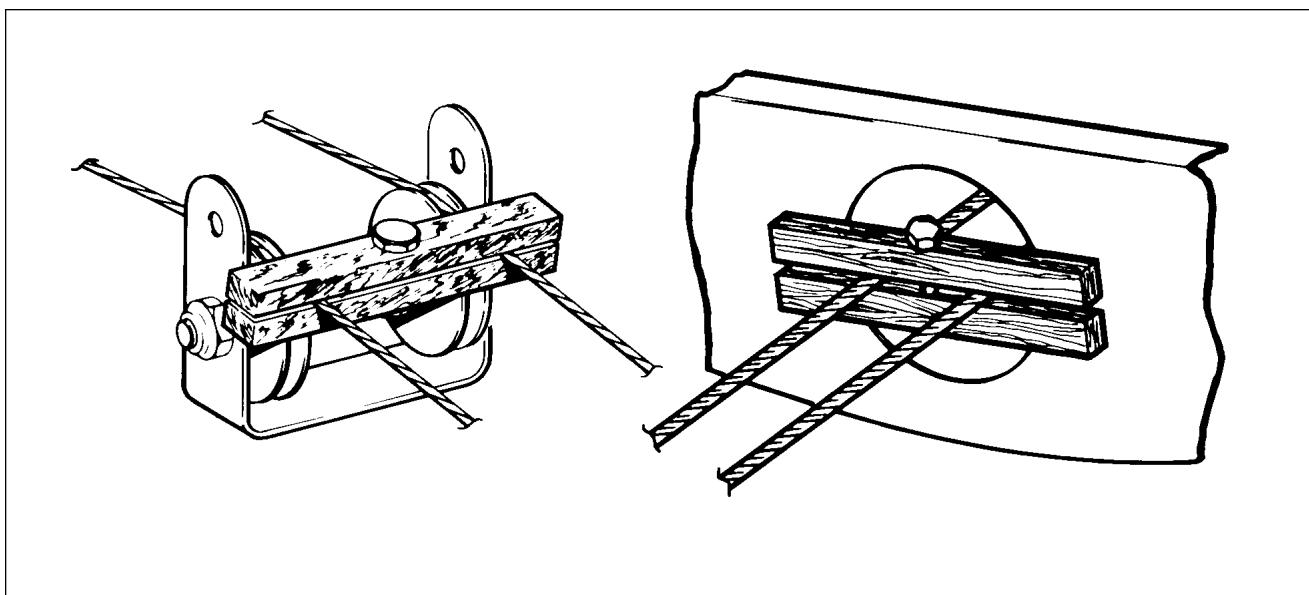

Figure 27-26. Methods of Securing Trim Cables
- (1) To remove trim control wheel assembly and trim control cables, remove the panel to the aft section of airplane.
- (2) If aft trim cable is not to be removed, block cables at the pulleys in upper aft section of fuselage to prevent unwrapping from trim drum. (Refer to Figure 27-26.)
- (3) Loosen the cables if the trim control wheel is to be removed or disconnect if the cables are also to be removed. (Do this at the trim cable turnbuckles in the aft section of the fuselage.)
- (4) Remove control wheel and drum as follows:
- (5) Remove trim control cables as follows:
- (1) Remove access panel to aft section of fuselage.
- (2) Block trim cables at the first set of pulleys forward of cable turnbuckles in aft fuselage per Figure 27-26.
- (3) Disconnect cable at the turnbuckles in aft section of fuselage.
- (4) Remove tail cone attaching screws and remove tail cone.
- (5) Remove nut, washer, bolt, bushing, and sleeve connecting link to screw, and dis- connect link between trim screw and trim control arm.
- (6) Remove cotter pin from top of screw, and turn screw down and out of barrel.
- (7) Remove snap ring, washer, and thrust washer from bottom of barrel.
- (8) Remove the four attaching nuts, washers, and bolts and disconnect the diagonal rib from horizontal rib that supports the trim assembly.
- (9) Pull trim cable from fuselage.